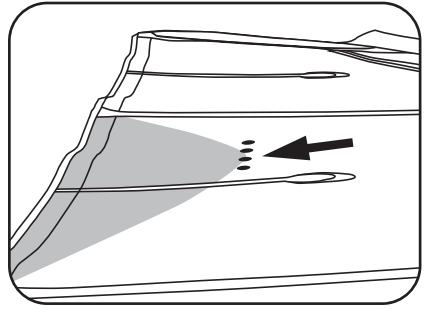

Figure 2: With the leech lying on the ground, downhaul until the looseness extends to the four dots.
- b) Then, downhaul until the looseness on the leech extends to the four dots printed between battens #2 and #3 (figure 2).